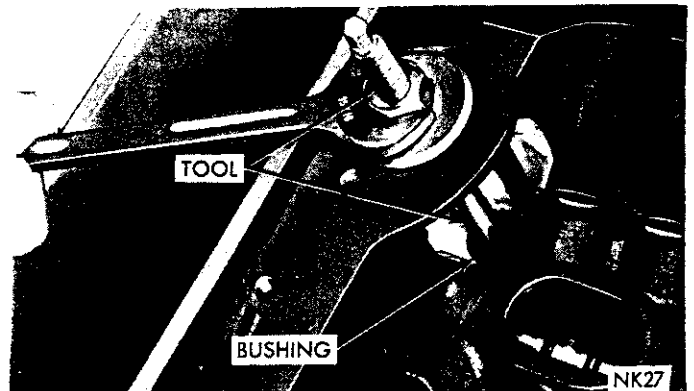

Fig. 34—Removing Distributor Drive Shaft Bushing
(1) Insert Tool C-3052 into old bushing and thread down until a tight fit is obtained, (Fig. 34).
(2) Hold puller screw and tighten puller nut until bushing is removed.